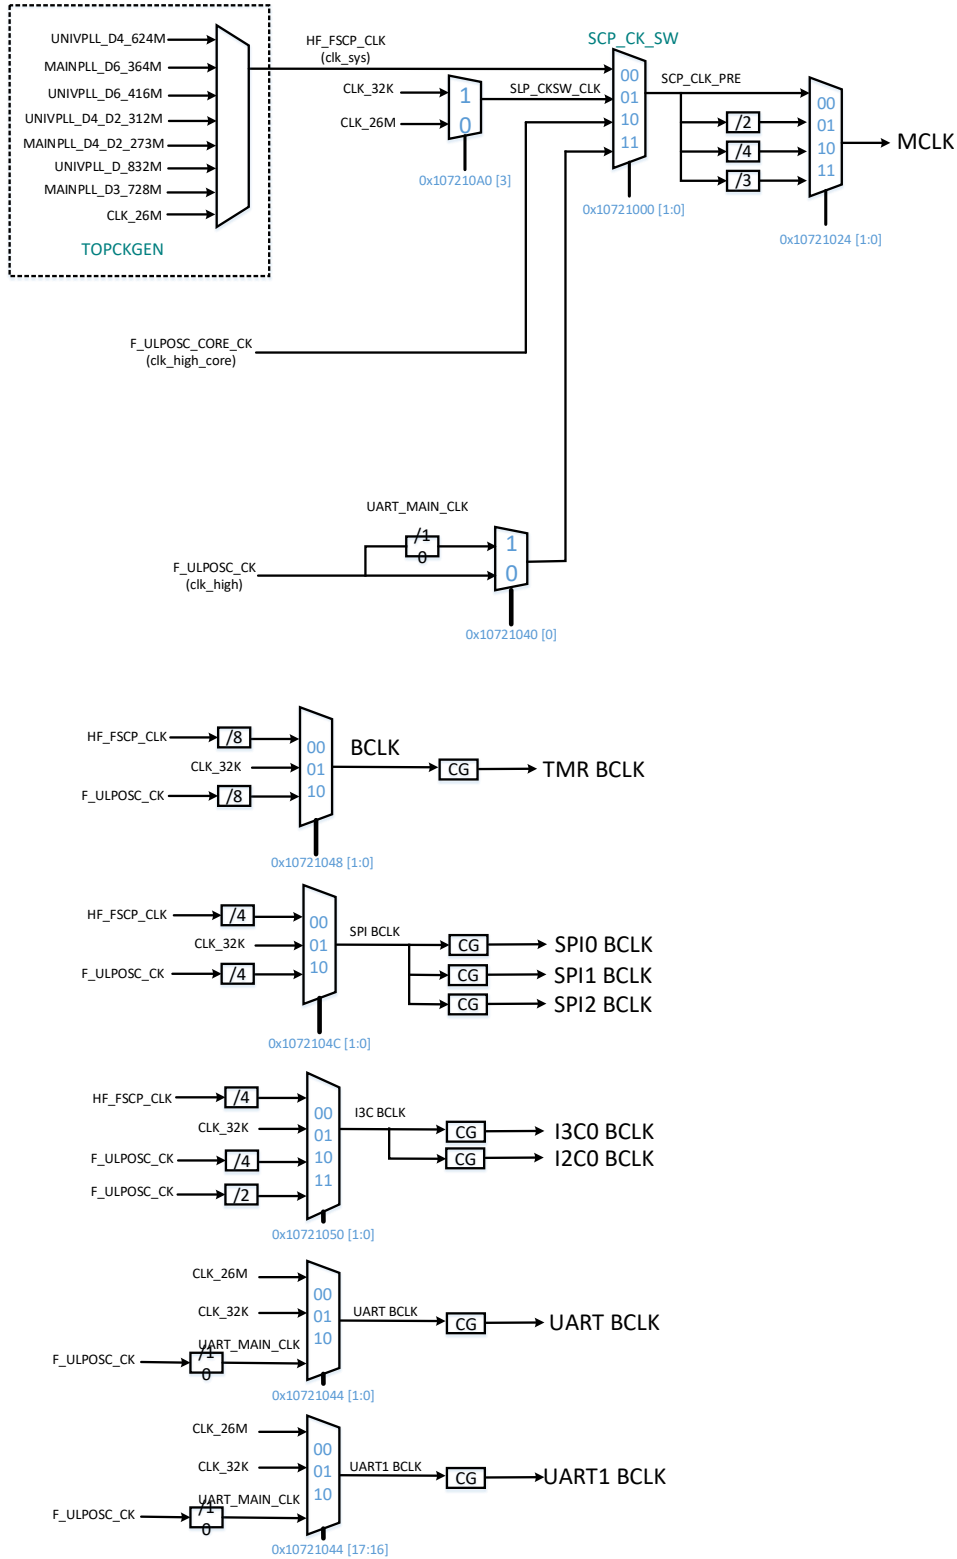

Figure 3-9 SCP Clock Structure
The clock source of the SCP subsystem is provided by HF\_FSCP\_CK, CLK\_32K, CLK\_26M, or CLK\_ULPOSC (the four clocks are configured by the CLK\_SW\_SEL control register CR setting). Bus, RV55, and IP bus interface clock are controlled by the divider selection (MUX) control register and clock gating (CG) control register. The SCP clock structure is as Figure 3-9 shows.
In order to comply with the low speed IO protocol, the peripherals need to operate at the special clock period, I2C bclk, I3C bclk, SPI bclk, or UART bclk. The clock divider selection control register and the clock gating (CG) control register of low speed peripherals and IO are shown in Figure 3-9.